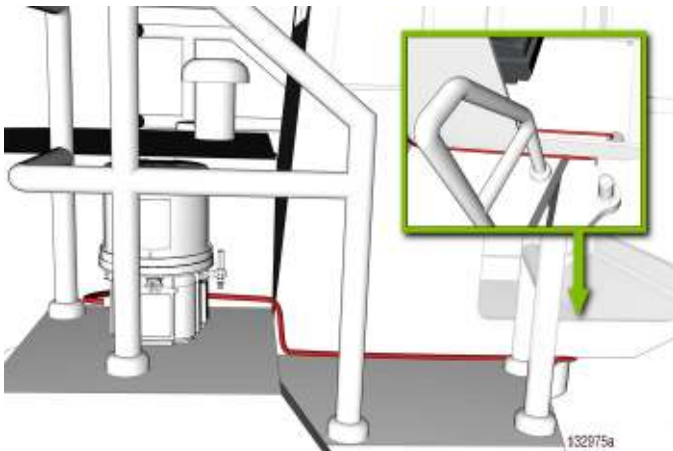

FIG. 12
1. Route the power cable from the pump through the body of the machine and under the cab to protect it from the environment and to aid in wiring into the cab. For installations utilizing a proximity switch and a controller, route the prox cable along the same path as the power cable (FIG. 12).